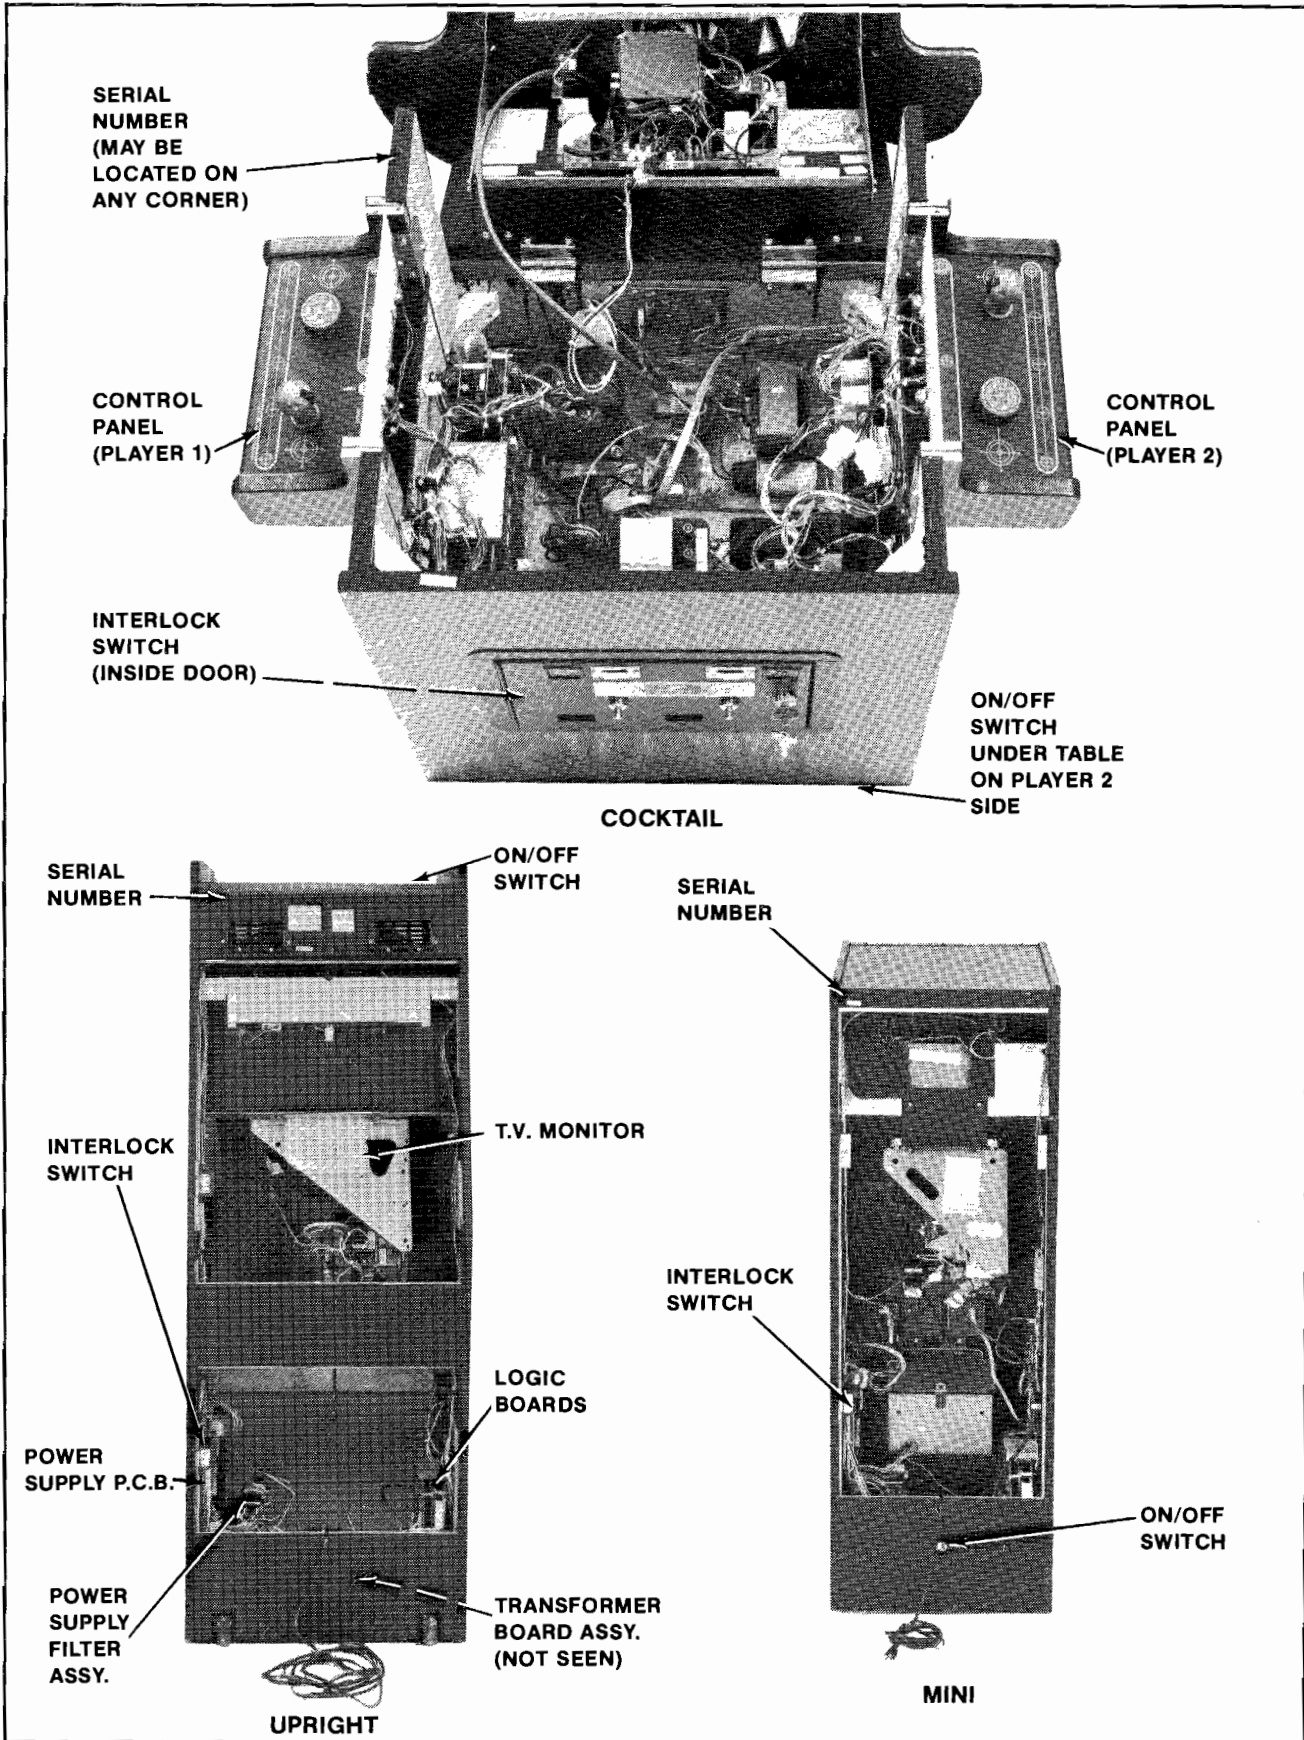

Figure 2-1 Location of Serial No., Interlock Switch, On/Off Switch, & Major Sub-Assys.
5. Open the cabinet and inspect the inside of the game for any signs of damage. See Figure 2-1.
- Make sure all printed circuit boards (P.C.B.'s) are firmly seated in their connectors. See Figure 2-1. These connectors are also keyed. The P.C.B.'s will only go into them one way without being damaged.
- Note the location of the games' serial number. See Figure 2-1.
- Check all major subassemblies to be sure they are mounted securely. These are called out in Figures 2-1 and 2-2.
### 3. Interlock and power ON/OFF switches. See Figure 2-1.
The game ON/OFF switches for all models are located as shown in Figure 2-1. Turn the game on and allow it to warm up a few minutes.